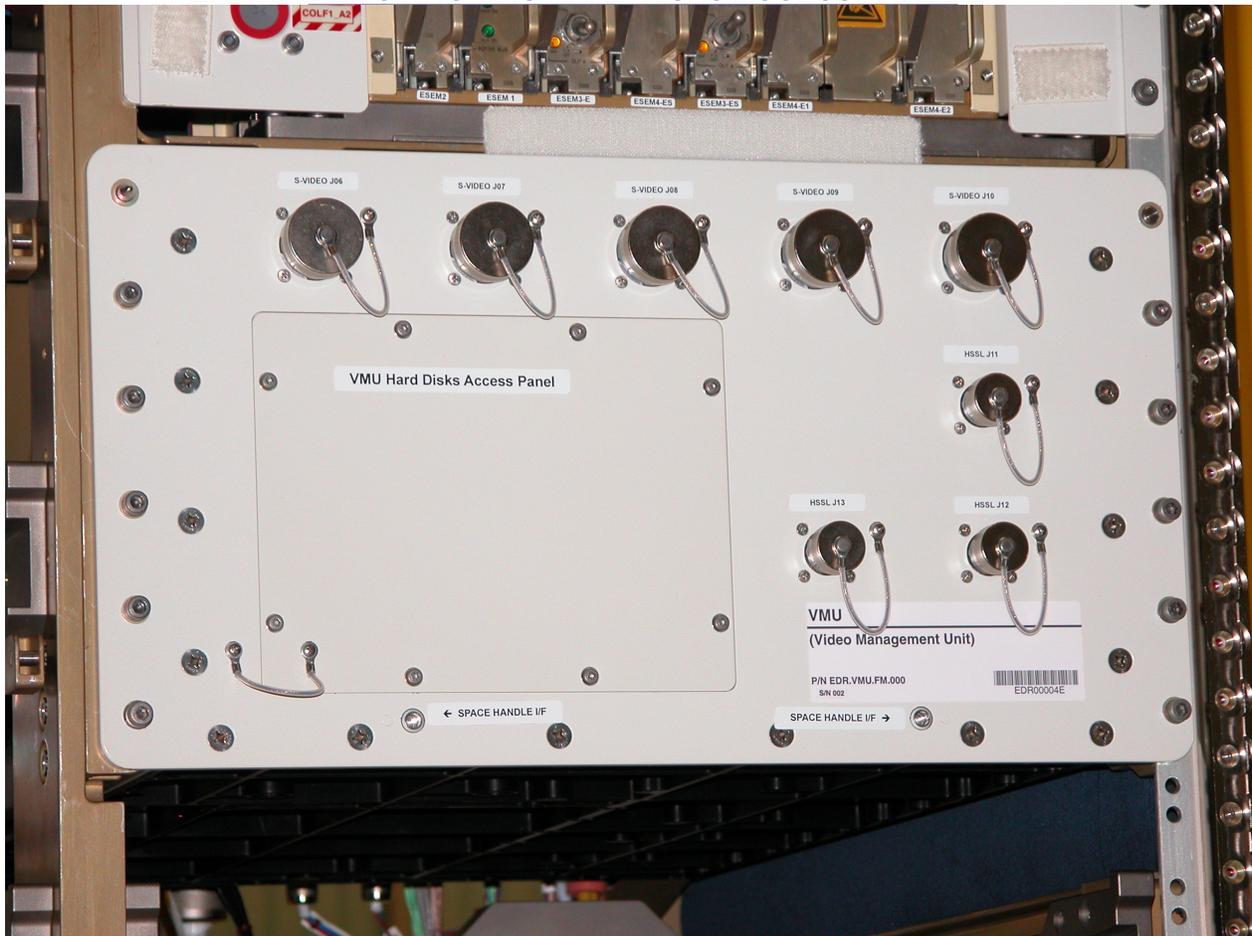

Figure 1. VMU Hard Disks Access panel
- 2.1 Loosed eight (8) Captive screws on the VMU Access Panel. (Ratchet Wrench, 1/4" Drive; M4 (3 mm) Hex Head Driver, 1/4" Drive) (see figure 1)